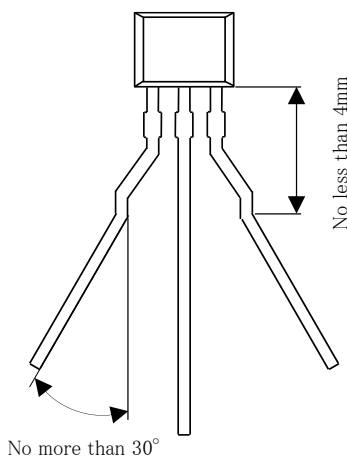

Fig.1 Bending of Leads toward Either Side.
(2) To make a lead bending sideways as shown in Fig.1, bend at a point on the thin portion or at a point more than 4mm down from the body. The bending angle should be less than 30° .